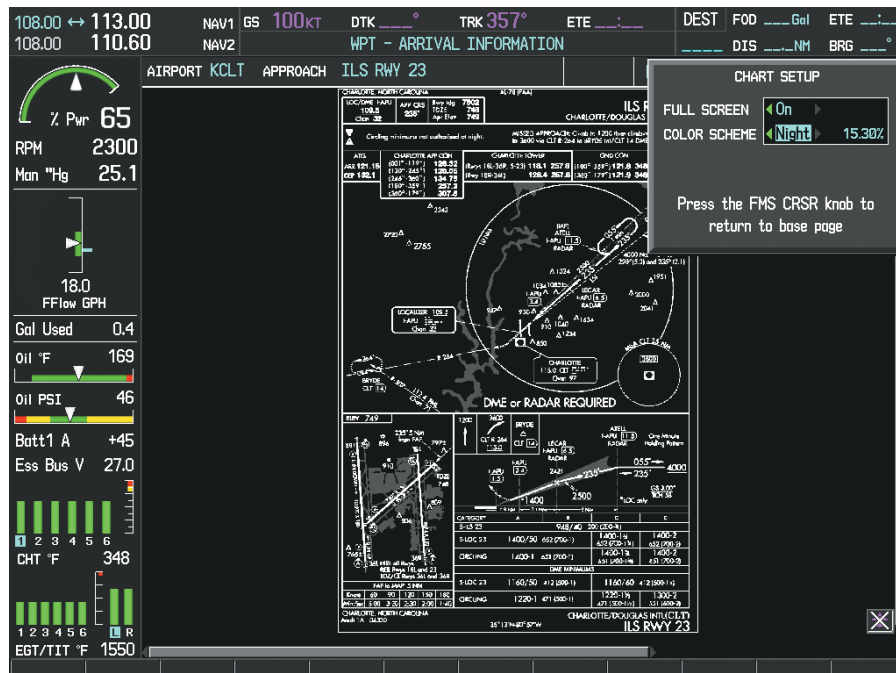

Figure 8-68 Approach Information Page, Night View
- 3) Turn the large **FMS** Knob to move to the COLOR SCHEME Option (Figure 8-68).